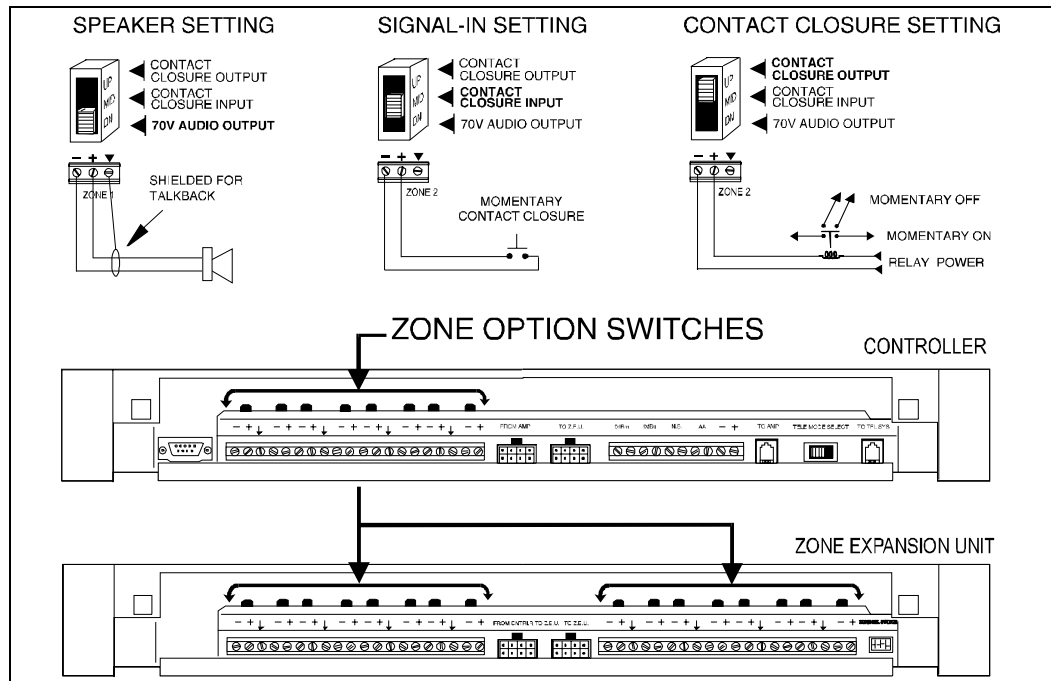

Figure 5. Setting Zone Option Switches on Controller and Zone Expansion Units
8. Make zone connections to Controller and Z.E.U. (see Figures 5 thru 7).